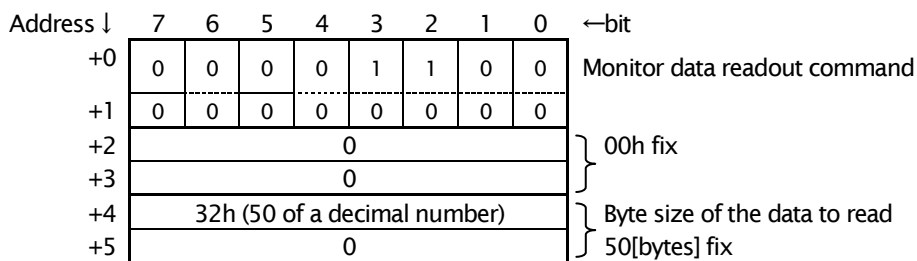

Figure 3.20 Data composition of the data write-in demand SDU (Monitor data readout command)
- 1) Master station transmits the data write-in demand shown in figure 3.20 to OPCN66-Z, and directs readout of monitor data. Byte size directions of 2nd word are fixation in 50 [a byte] (25 words). OPCN66-Z replies the received data to a master station as it is as a data write-in response.